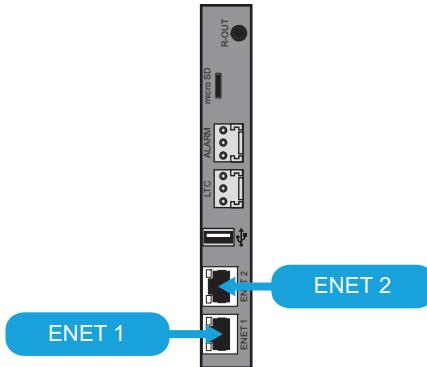

Figure 4 UTRIX-FR12 — Network Connections
- b. Connect the other end of the same cable to the **ENET 1** port on the rear of the UTRIX-FR12 router. (**Figure 4**)
- b. Connect the other end of the same cable to the **ENET 2** port on the rear of the UTRIX-FR12. (**Figure 4**)